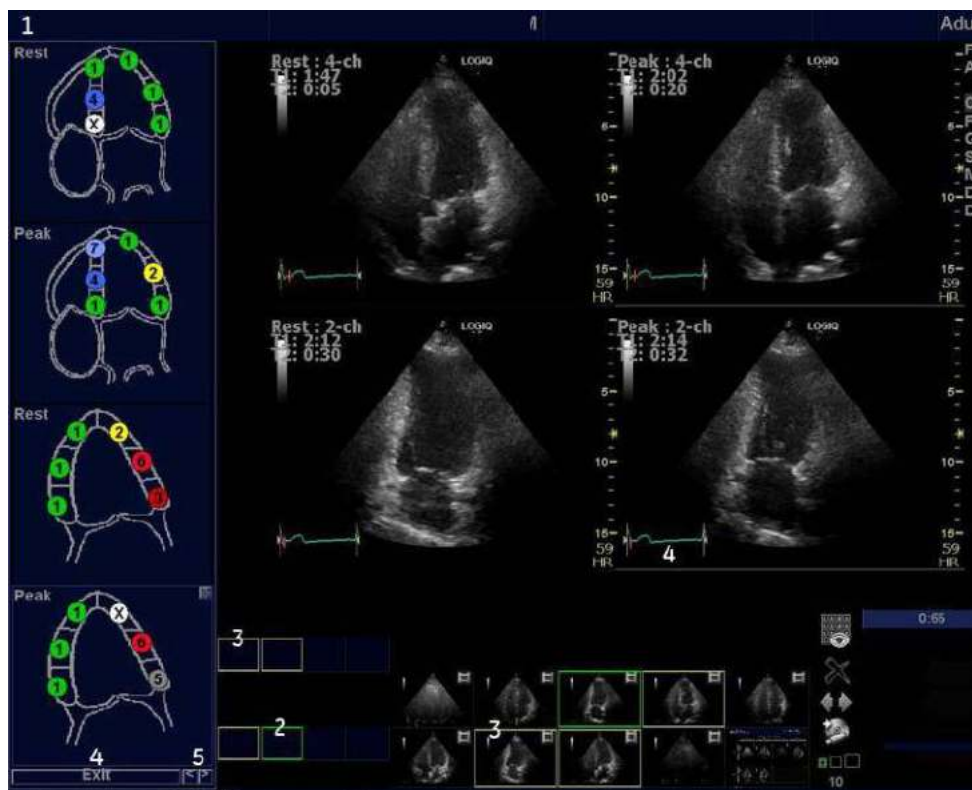

Figure 13-100. Analysis Screen
3. To advance to other groups, use the **Trackball** to move the cursor to the arrows at the bottom of the Wall Segment window. Select an arrow to advance to another group. For further clarification, see callout E in Figure 13-100.